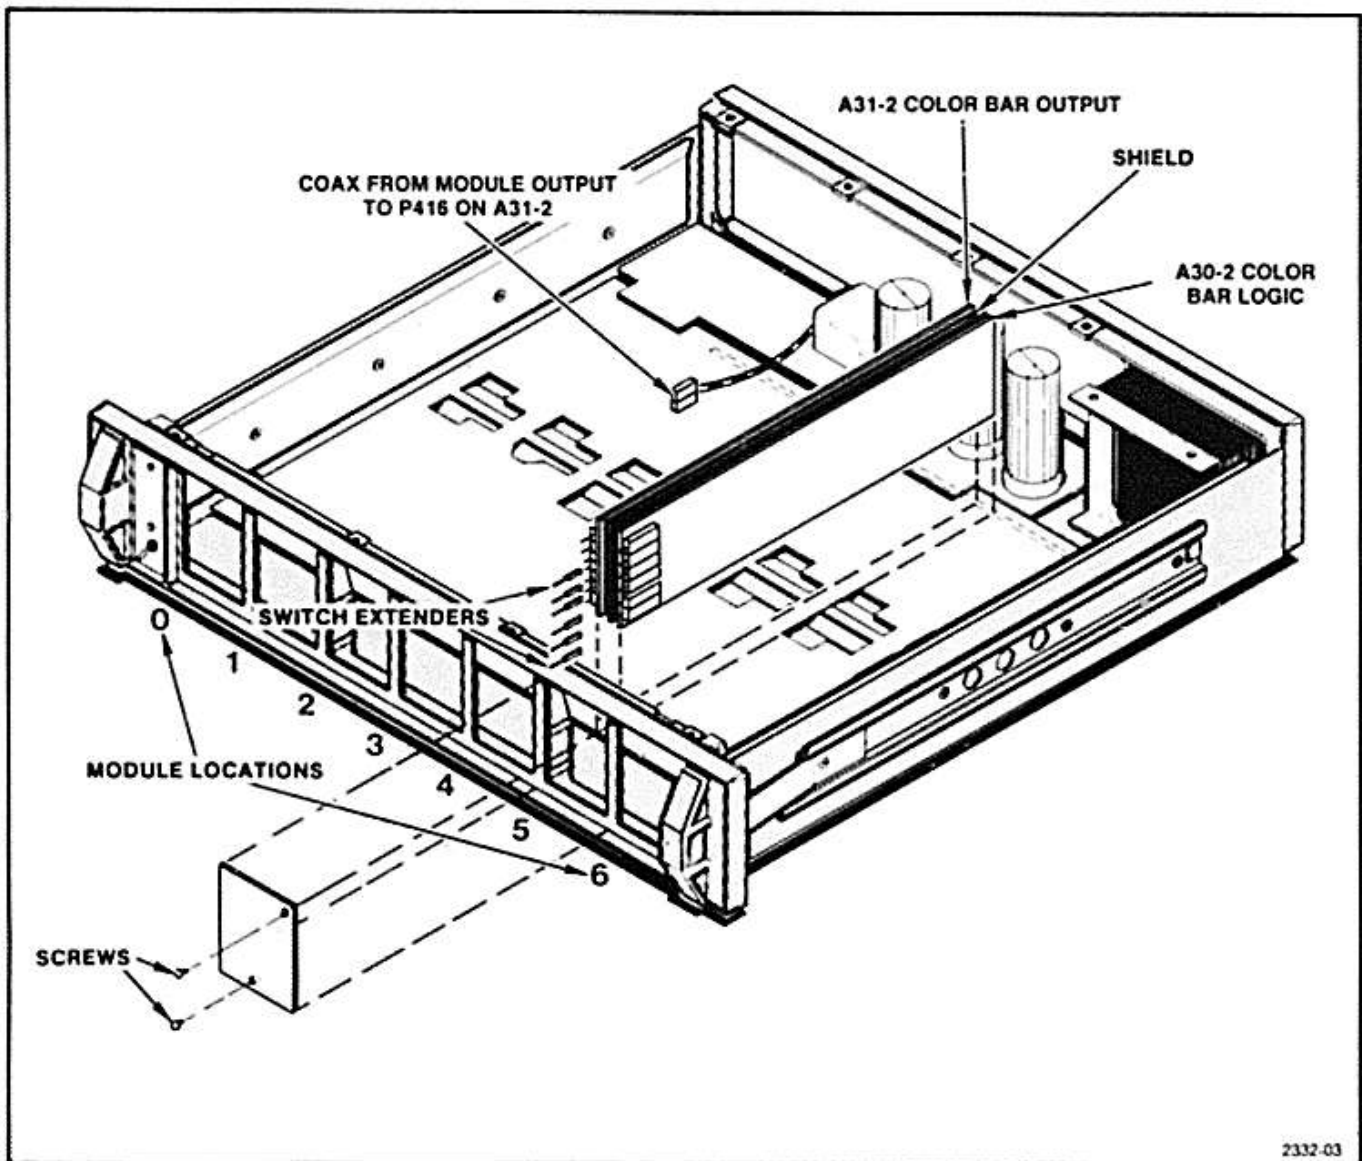

Fig. 3-1. Installing the module circuit boards in the mainframe.
2. Select an available module location for installation of the TSG21. Remove the blank front panel from this location. See Fig. 3-1.
8. Connect the appropriate coaxial cable from the 1412 Module Output connector to the output pins of the A31-2 Color Bar Output board. Cables are color coded to match location designations shown in Fig. 3-1.